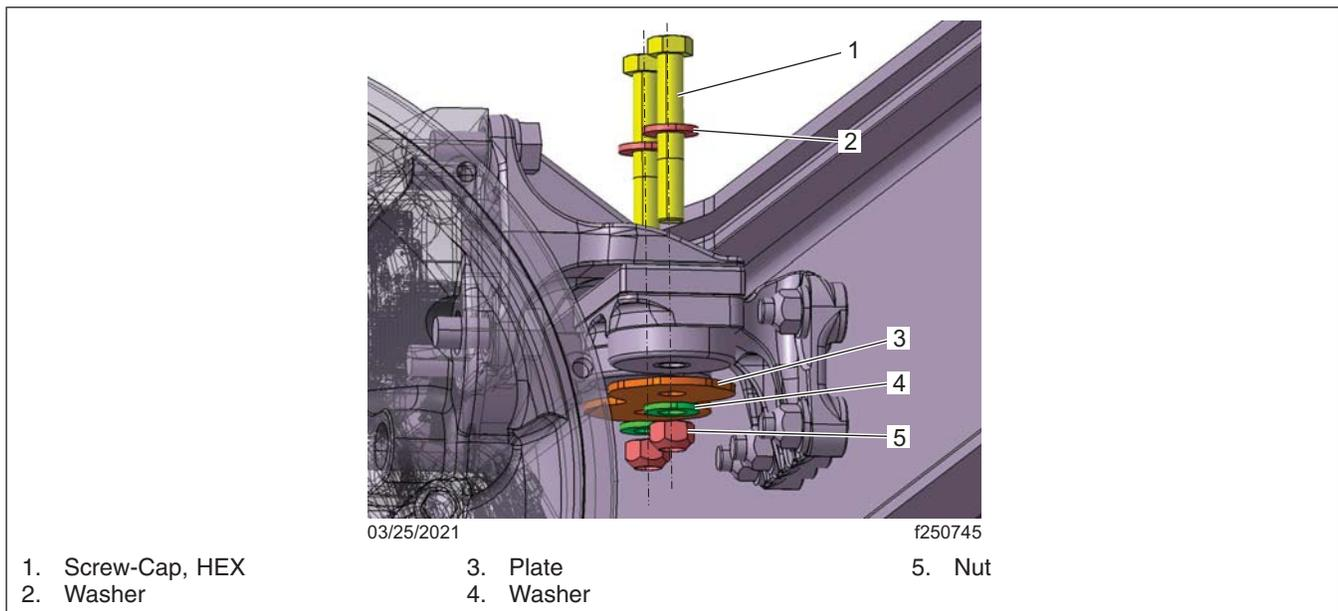

Fig. 33, Nodal Rear Engine Supports
5. Lower the back of the engine and install the isolator bolts. Torque to 203 lbf-ft (275 N·m), alternating between the front and rear bolts, to prevent binding. See Fig. 33.